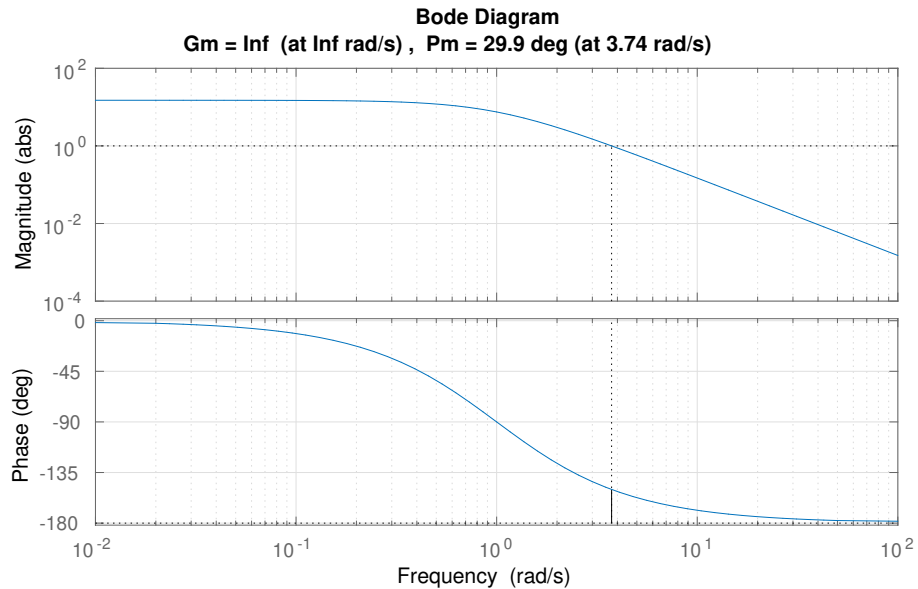

Figure 6: Margins for Problem 5.
- b. In figure 6 we see the margins. We get $\varphi_m(i\omega_c) \approx 30$ for $\omega_c \approx 3.7$ and $A_m = \infty$ since we never cross the negative real axis (i.e. the phase asymptotically approaches -180 degrees).